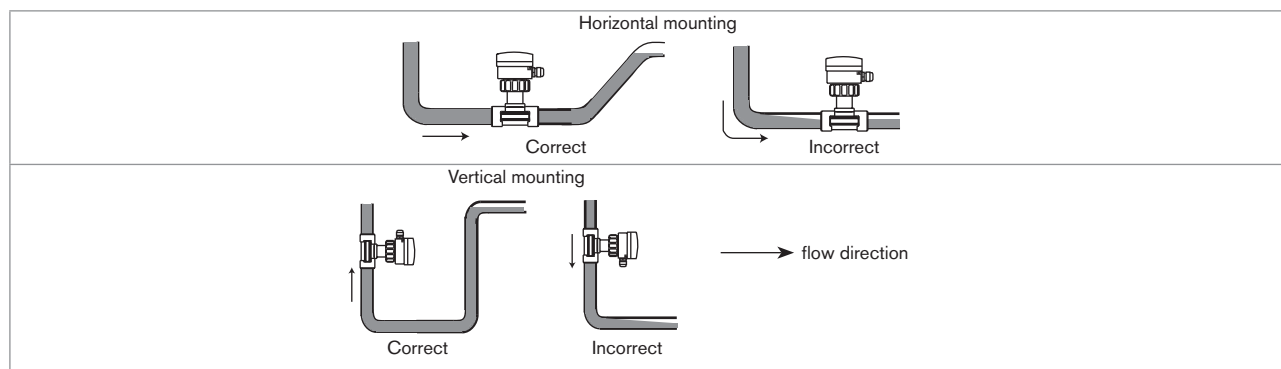

Figure 9: Filling of the pipe
- Ensure that the pipe is always filled in the section around the device (see Figure 9).
- When mounting vertically ensure that the flow direction is in an upward direction (see Figure 9).